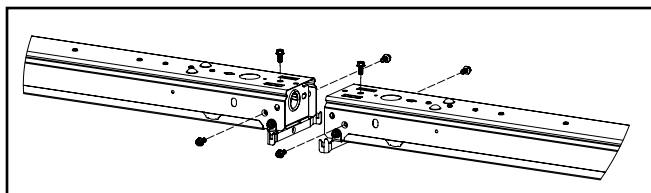

Figure 10
- Remove screws (qty 6) shown below from the channel, these screws will be reinstalled after channel connector is installed. (Figure 10)